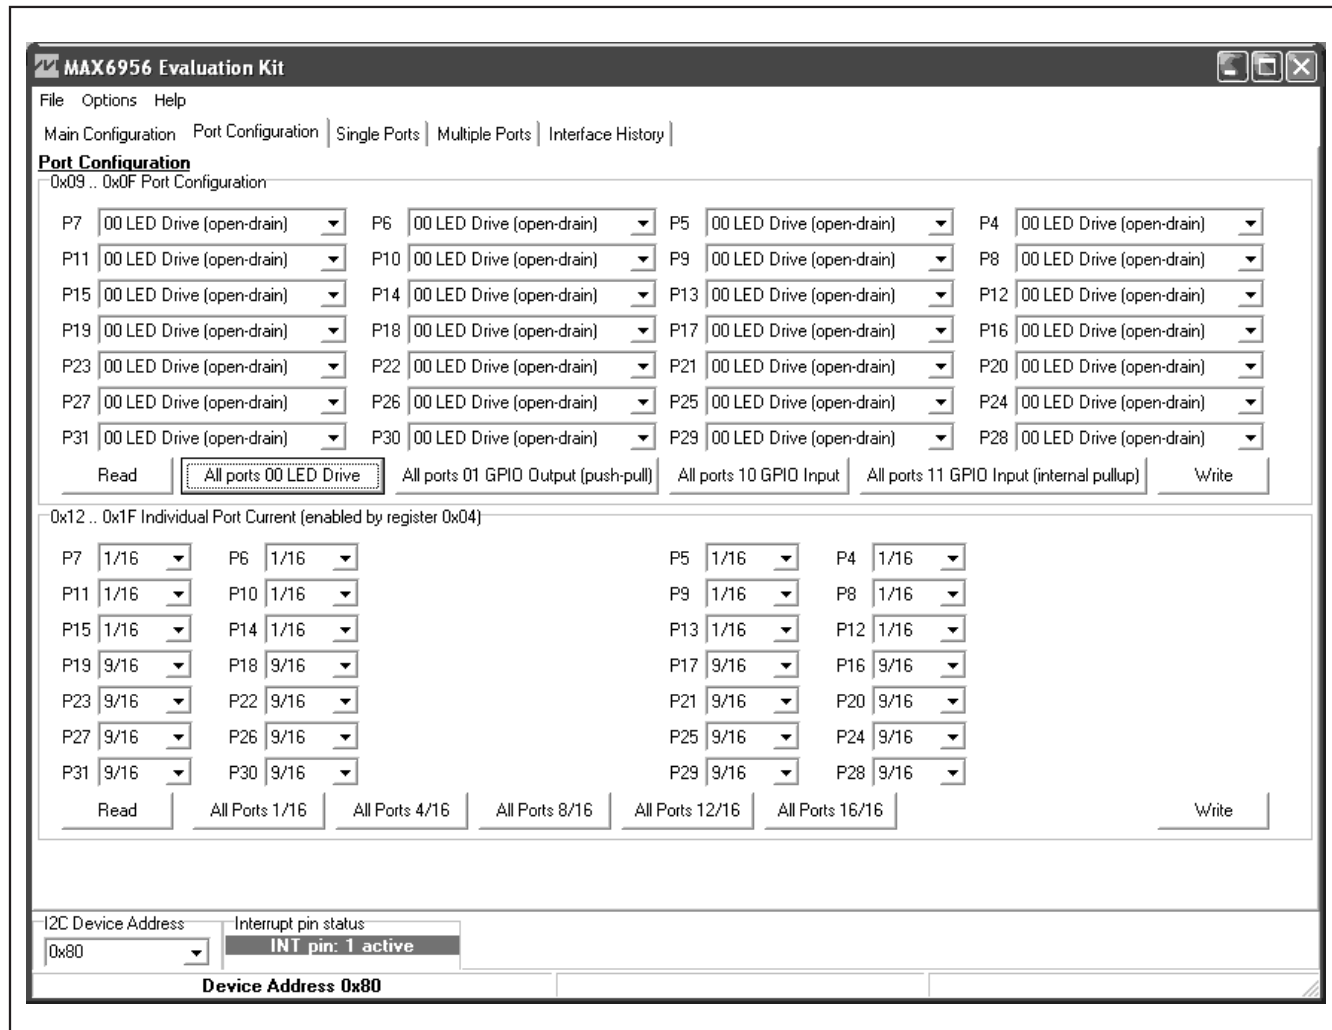

Figure 2. MAX6956 EV Kit Software Main Window (Port Configuration Tab)
- 2) Select the **Port Configuration** tab (Figure 2). In the **0x09 .. 0x0F Port Configuration** group box, set P30 = **10 GPIO Input (no pullup)**, set P31 = **01 GPIO Output (push-pull)**, and press the **Write** button.